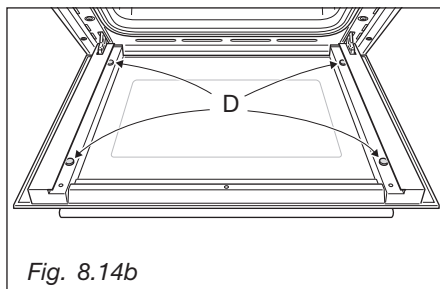

Fig. 8.14b
- Check the correct positioning of the no.4 (four) silicon rubbers **D** (fig. 8.14b).